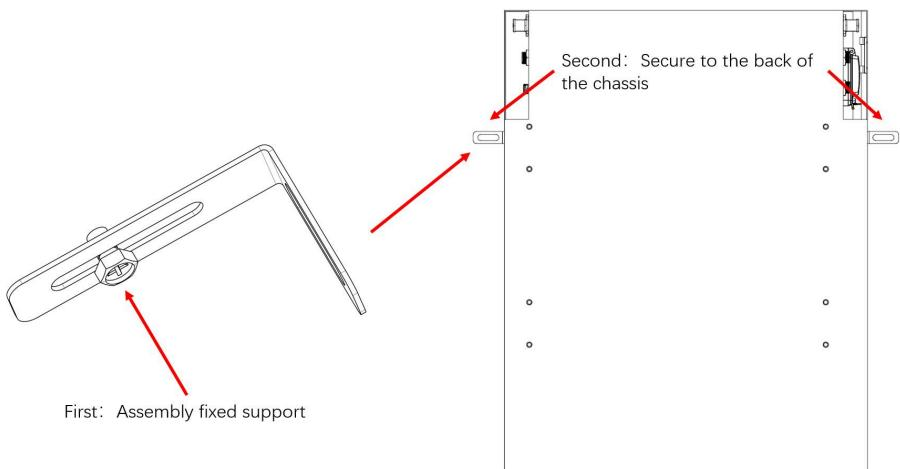

Figure 5-4
- Use the 2 screws of M6 to fix the left and right retaining ears to the back of the battery, as shown in Figure 5-4.